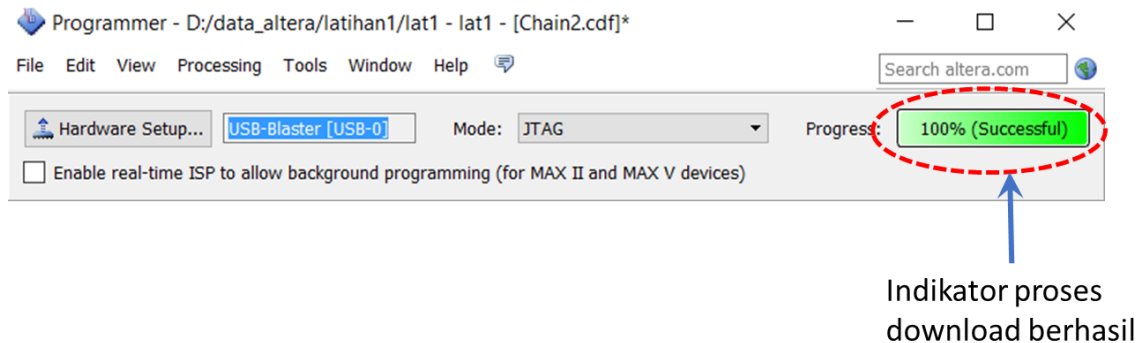

Figure 32. Indication that the download process is complete
5. The next step is to start the process of downloading the “.sof” file to the FPGA by clicking the start button. Wait until the download process is complete which is marked with the success notation in the progress (see figure 32).